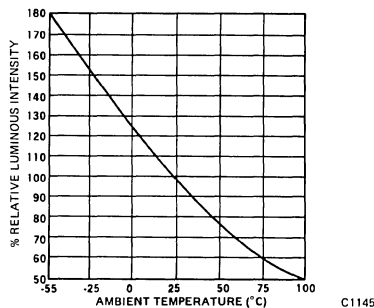

Figure 2 Luminous Intensity vs. Temperature
- The curve in Figure 2 is normalized to the brightness at 25° C to indicate the relative efficiency over the operating temperature range.